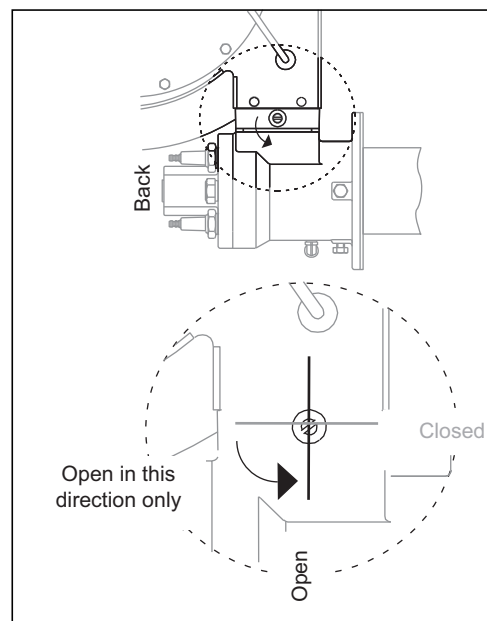

Figure 4.1. Air Butterfly Valve
8. Verify that the actuator opens the air BV towards the back of the burner as shown in Figure 4.1. If it doesn't, refer to the actuator's literature for instructions on how to reverse the direction.